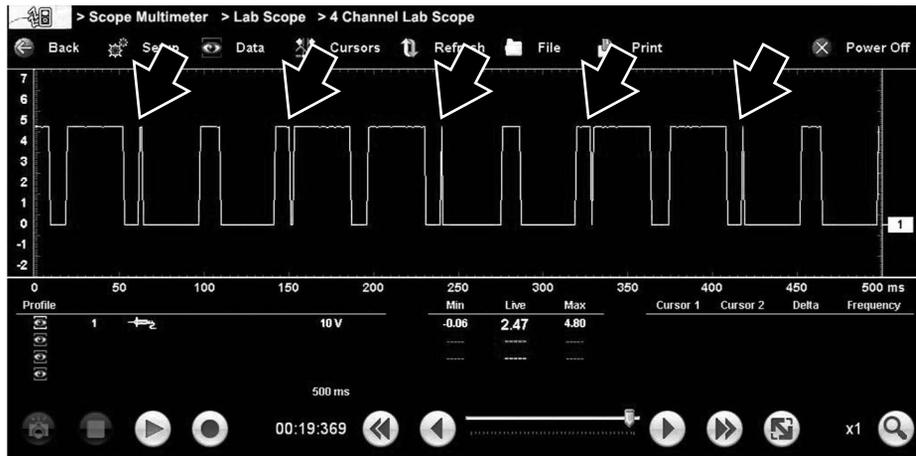

Figure 13 Glitch On
- Toggle the **Glitch switch** on/off to show the difference in patterns. With the switch on notice the change in the pulse pattern. The glitch(s) display as an additional short pulse (*Figure 13*).